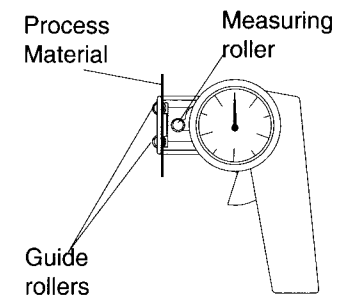

fig. 3.3
- Keeping the GUIDE ROLLERS extended, bring the instrument behind or under the filament and move it so that the GUIDE ROLLERS contact the PROCESS MATERIAL (see fig. 3.3).